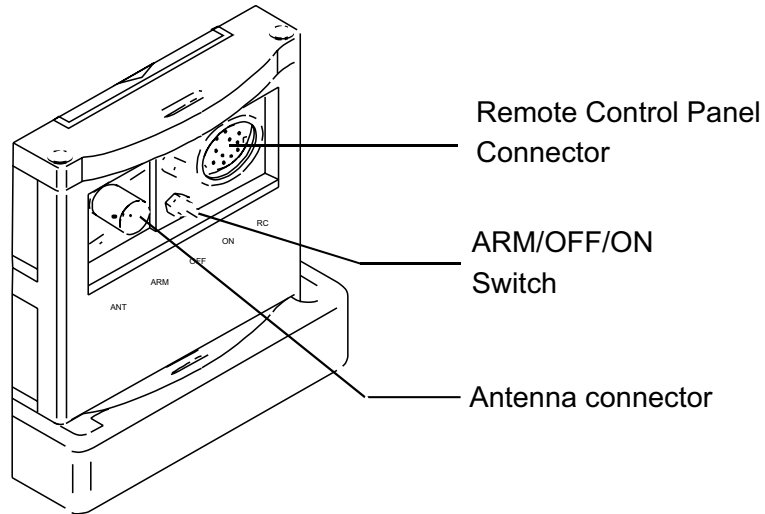

Figure 205: Installation, controls and connectors
- Connect the external antenna to the BNC connector (Refer to Figure 205: Installation, controls and connectors) as shown Figure 2: ELT system description page 3.
- Connect the Remote Control Panel (or CS144) to the DIN12 connector (Refer to Figure 205: Installation, controls and connectors) as shown Figure 2: ELT system description page 3.
- Set the 3-position switch (Refer to Figure 205: Installation, controls and connectors) to ARM.
- Switch the ELT to OFF (Refer to Figure 205: Installation, controls and connectors).
- Disconnect the Remote Control Panel (or CS144) from the DIN12 connector (Refer to Figure 205: Installation, controls and connectors).
- Disconnect the outside antenna from the BNC connector (Refer to Figure 205: Installation, controls and connectors).